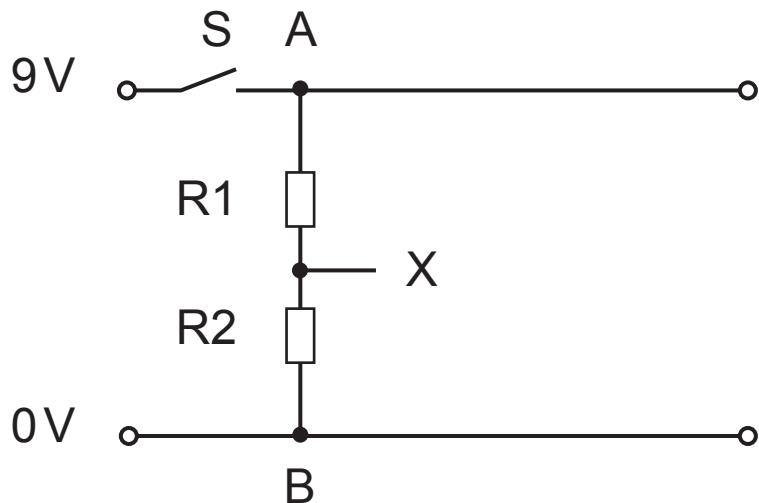

Fig. 5
- (d) A circuit is shown in Fig. 5. The power supply required is 9V. Resistor R₁ has a value of 1.8 kΩ and resistor R₂ has a value of 2.2 kΩ.